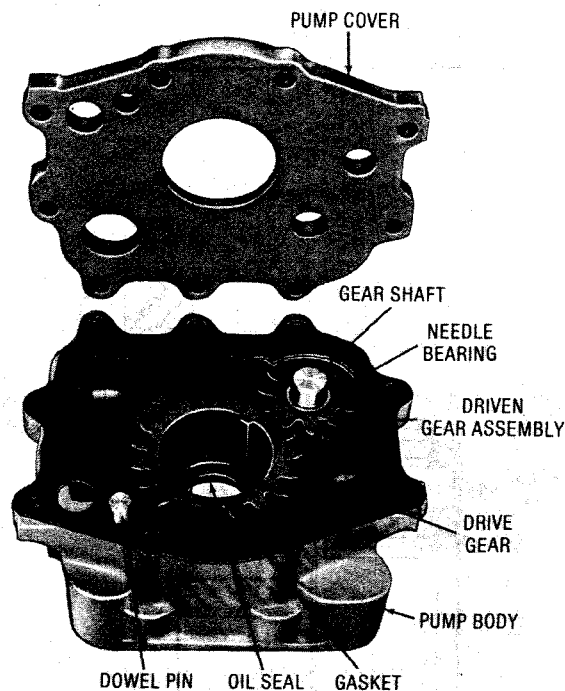

Fig. 6-31. Oil pump assembly
(1) Remove the pump cover and gasket (fig. 6-31).
(2) Remove the drive gear and driven gear assembly.
(3) If necessary, remove the needle bearings from the driven gear.
(4) Install a new seal, spring-loaded lip first, into the rear of the pump body. Press the seal until it seats lightly on the shoulder in the body bore (fig. 6-31).
(5) If the dowel pin was removed, press a new pin to a height of 0.41-0.43 inch (1.04-1.09 mm) above the front surface of the pump body.